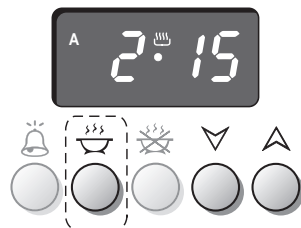

Fig. 13
1. Set the cooking time by pressing button  and then  to move forward or  to move back if you have gone beyond the required time (fig. 13).